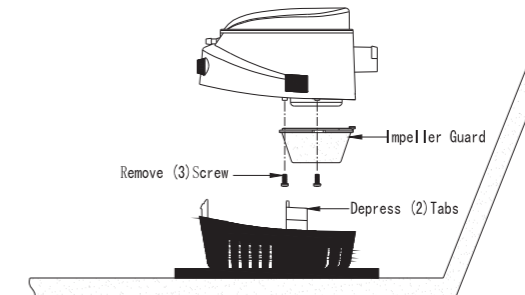

Figure 3
WARNING: Remove the pump mounting base (See Figure 3)
- To clean the water chamber remove pump housing from the mounting base by pressing in tabs on sides. Lift the pump housing away. (See Figure 3)